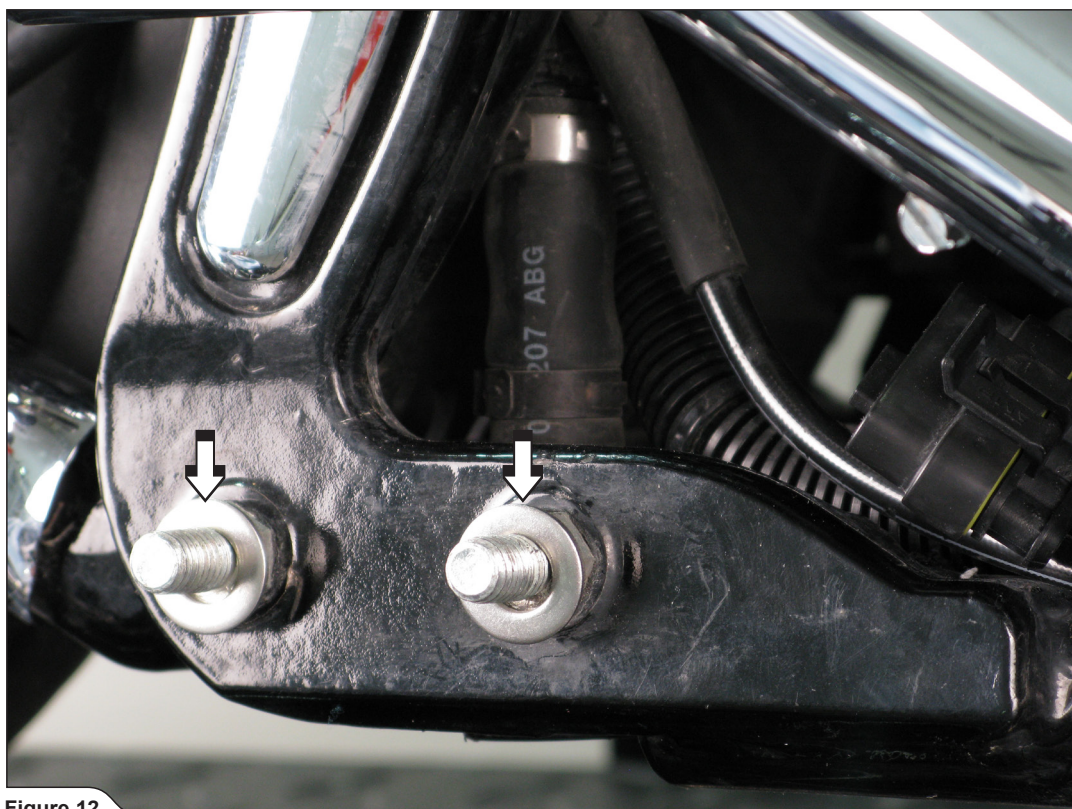

Figure 12
3. Put the marked distance washers (from Akrapovič installation kit) onto the brackets' stud bolts, as shown (Figure 12).